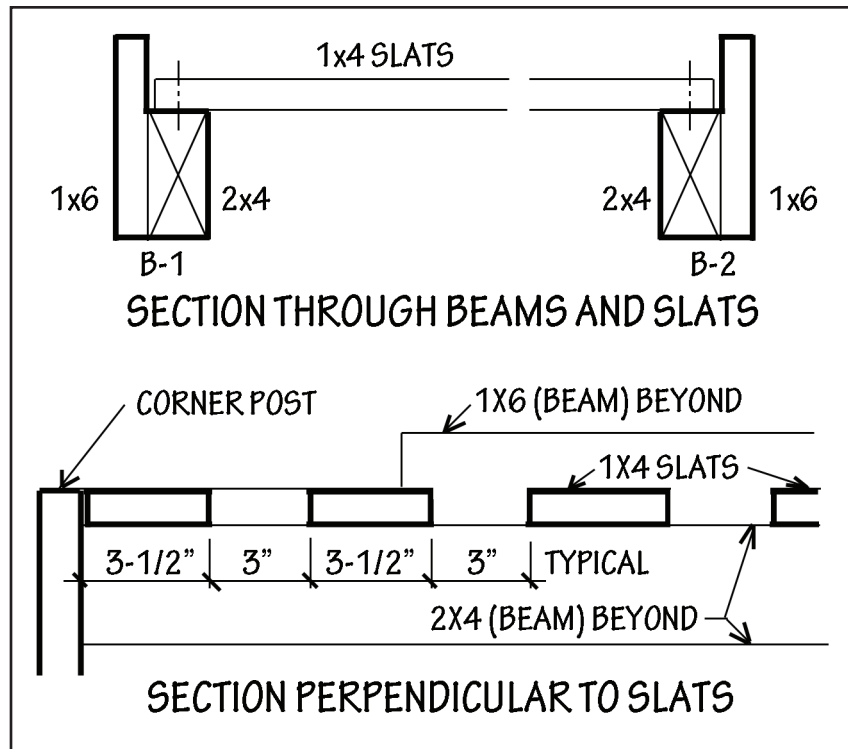

Figure 5. Installation of slats.
5. As shown in Figure 5, 12 slats for each bed (SL-1 through SL-12, and SL-13 through SL-24) can be screwed into the top beams (B-1 and B-2) and the bottom beams (B-3 and B-4), using